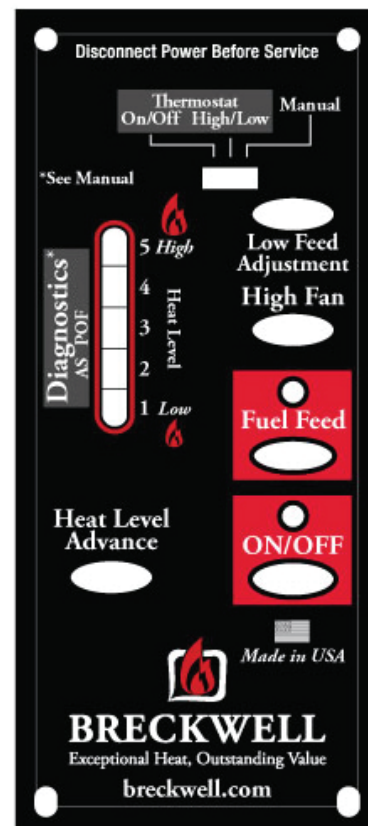

Figure 12
PANEL CONTROLS (See Figure 12)
- ☒ The green light located above the ON/OFF button (in the ON/OFF box) will flash during the ignition start-up period. (See Figure 12)
- ☒ While the stove’s auger system is feeding pellets, the green light (in the “Fuel Feed” box) will be on. (See Figure 12)